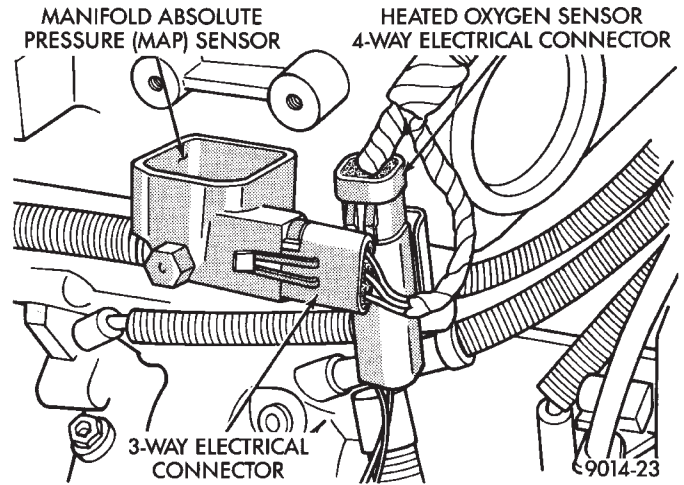

Fig. 6 MAP Sensor Electrical Connector
(11) Disconnect MAP Sensor and heated Oxygen Sensor electrical connection. Remove the engine mounted ground strap (Fig. 6).
(19) Connect ground strap, MAP and heated oxygen sensor electrical connectors (Fig. 6).